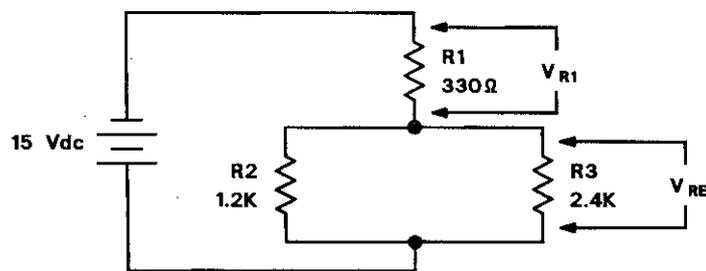

Figure 3 Series-parallel resistive circuit
1. Locate the POWER circuit block. Connect the circuit shown in Figure 3. Place the switch that is in the POWER circuit block in position A.